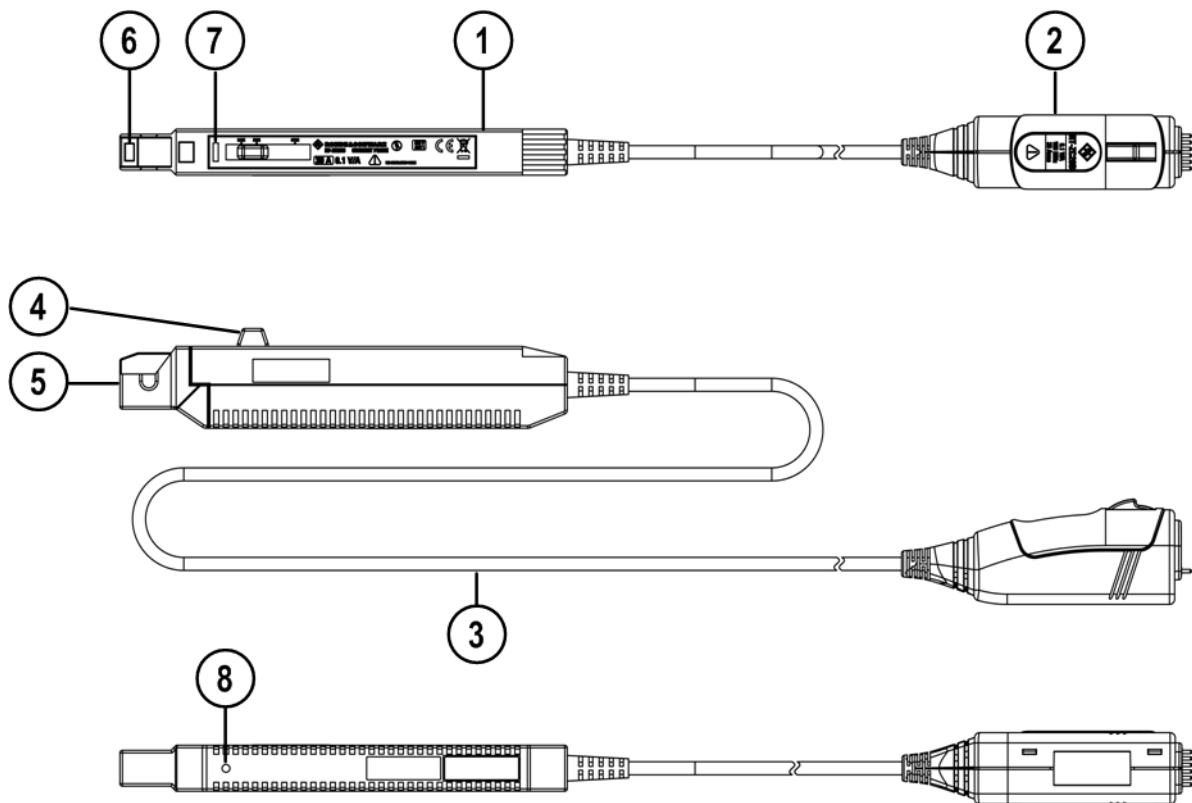

Fig. 2-1: Overview of the R&S RT-ZC15B current probe
8. If zero adjustment is not possible, turn the coarse adjustment trimmer to bring the waveform within the range of zero adjustment (see figure 2-1 on page 11).